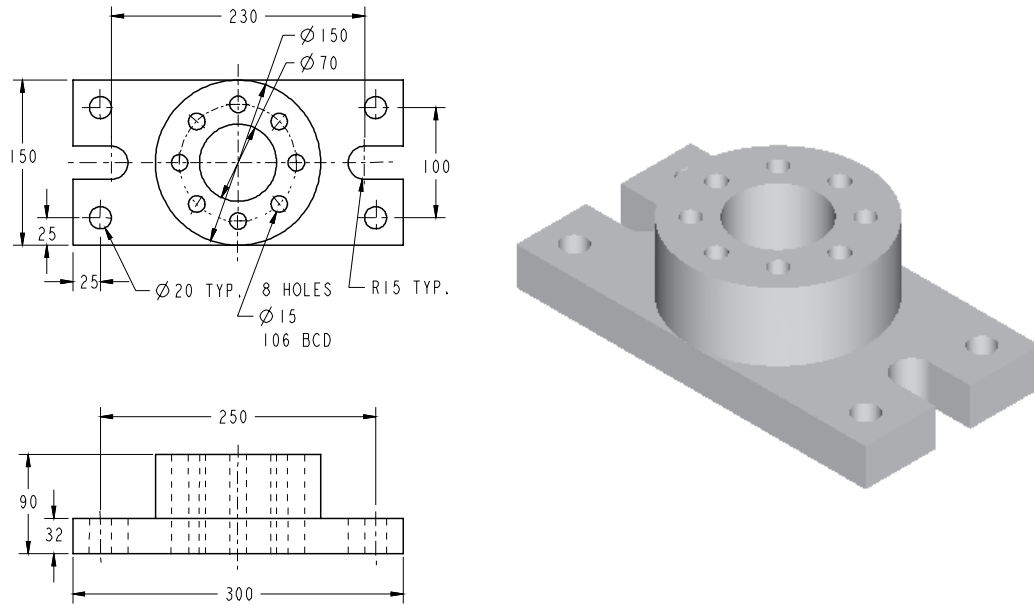

Figure 6-50 Top, front, and isometric views of the model
In this tutorial you will create the model shown in Figure 6-50. This figure also shows the top view, front view, and isometric view of the model. (Expected time: 30 min)
- First examine the model and then determine the number of features in it. The model is composed of five features, see Figure 6-50.